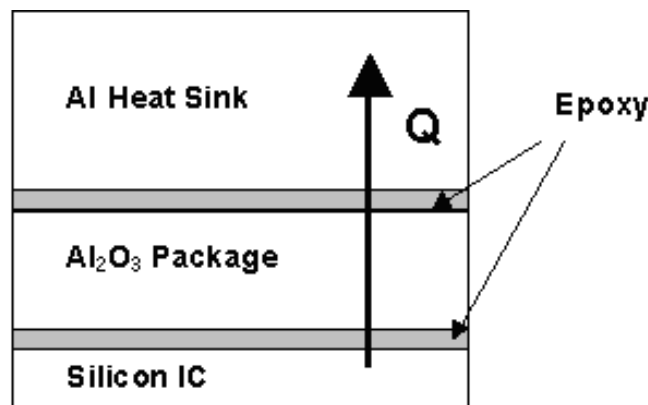

Figure 4a Thermal conduction from a Silicon IC to an Al heat sink, via an Alumina ( $\text{Al}_2\text{O}_3$ ) package
4. a. Describe the principal advantages of flip chip packaging of ICs over that of dual in-line packages (DIP). (4)
- b. Describe the special considerations which need to be taken in the packaging of (i) a silicon photodetector and (ii) a fibre coupled telecommunications laser. (5)
- c. A  $1\text{cm}^2$  chip, dissipating  $10\text{W}$ , is epoxy glued to a  $5\text{mm}$  thick alumina substrate, which is in turn epoxy glued to a  $10\text{mm}$  thick aluminium heat sink, as shown in Figure 4a. The chip temperature needs to be less than  $120^\circ\text{C}$ . Assuming linear heat conduction, what is the maximum allowed temperature at the surface of the heat sink? Assume the epoxy is coated to a thickness of  $100\mu\text{m}$ .